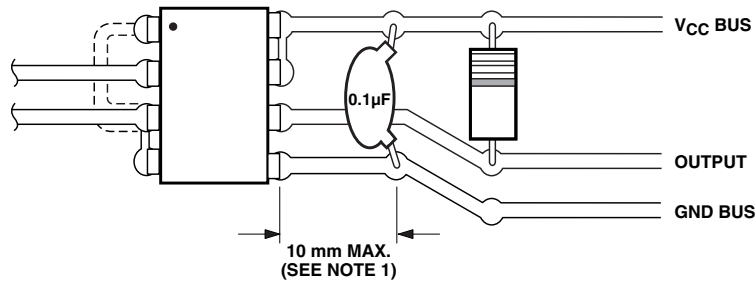

Figure 15. Recommended Printed Circuit Board Layout.
1. Bypassing of the power supply line is required with a 0.1 μF ceramic disc capacitor adjacent to each optocoupler, as illustrated in Figure 15. Total lead length between both ends of the capacitor and the isolator pins should not exceed 10 mm.
8. CM_{L} is the maximum tolerable rate of fall of the common mode voltage to assure that the output will remain in a low logic state (i.e., $V_{\text{OUT}} < 0.8 \text{ V}$). This specification assumes that good board layout procedures were followed to reduce the effective input/output capacitance as shown in Figure 15.